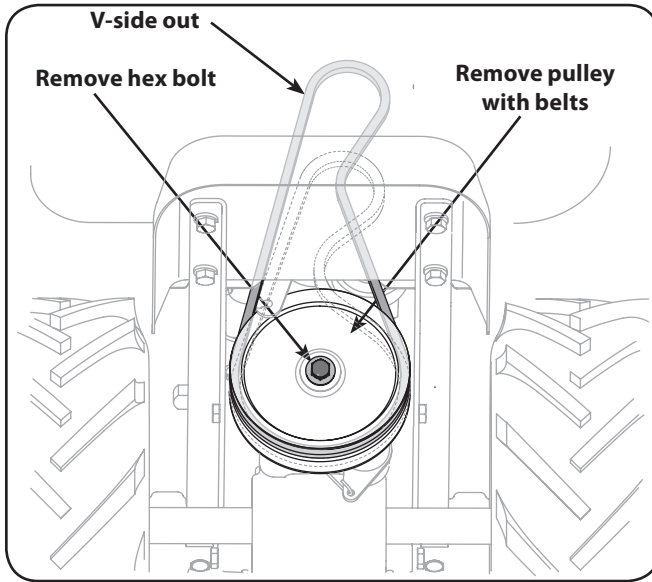

Figure 7-5
- Remove the hex bolt securing the transmission drive pulley, then remove the pulley along with the two belts. See Fig. 7-5.